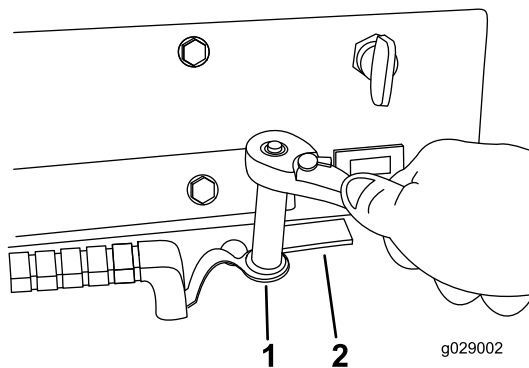

Figure 1
2. Remove the bolt located next to the right swell latch (Figure 1).